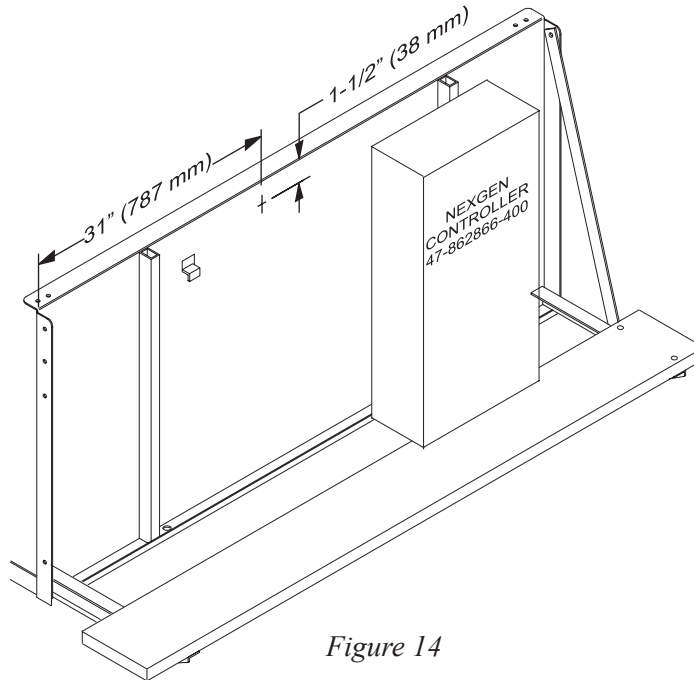

Figure 14
2. From this mark, measure down 1.5 inches (38 mm) and mark this point with a pencil. Refer to Figure 14.